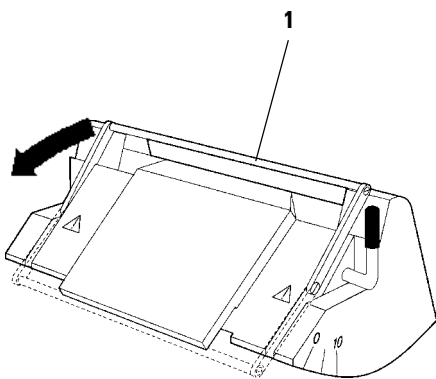

Fig. 6.2
Knife holder E (Fig. 6.2) is equipped with a tilting shackle (1) which functions as a knife guard.